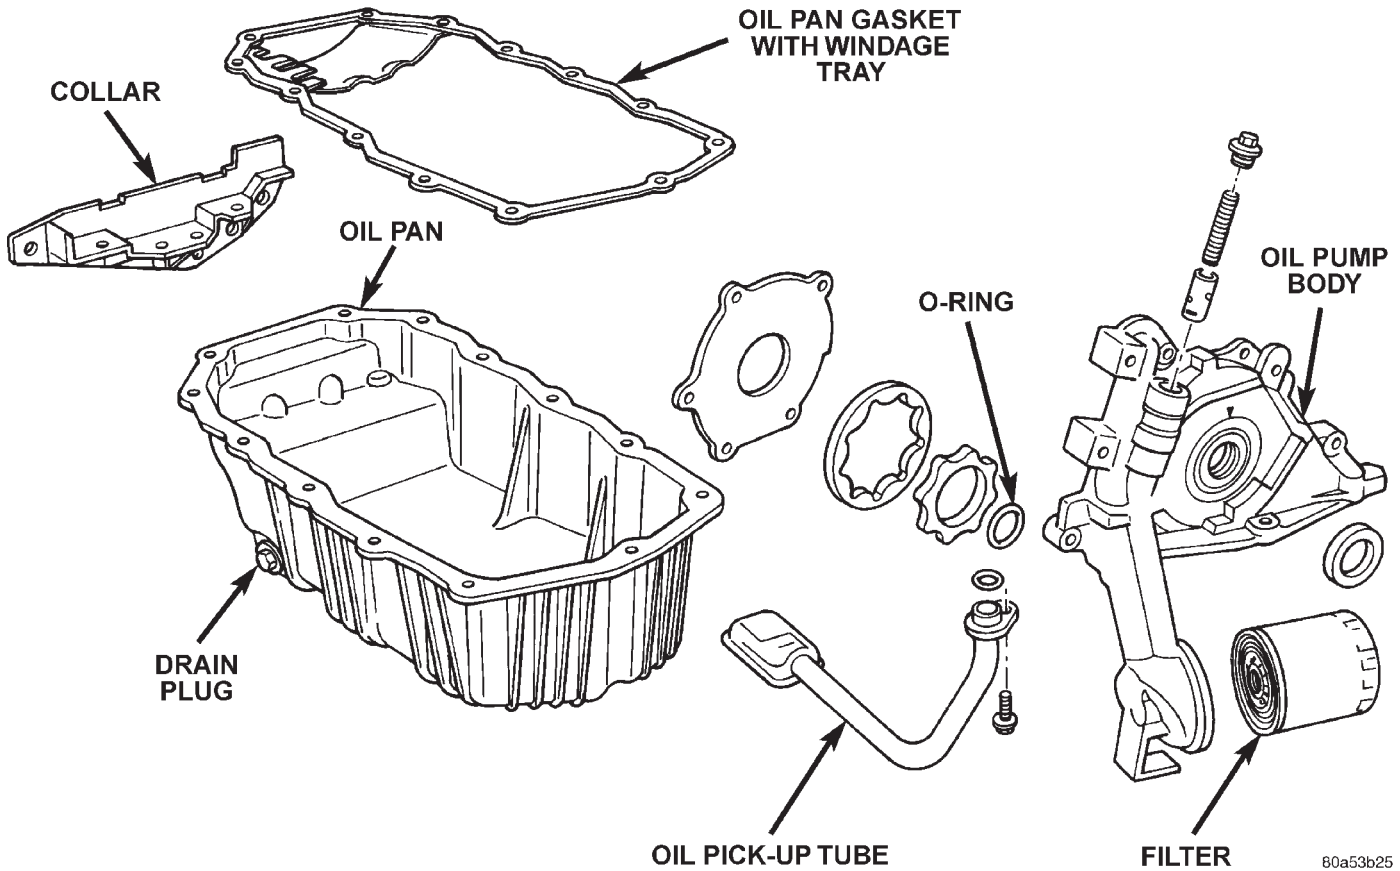

Fig. 87 Oil Pressure Relief Valve
- (1) To remove the relief valve, proceed as follows:
- (a) Remove the threaded plug and gasket from the oil pump (Fig. 87).
- (b) Remove spring and relief valve (Fig. 87)
- (2) Remove oil pump cover screws, and lift off cover.
CAUTION: Oil pump pressure relief valve must be installed as shown in (Fig. 87) or serious damage may occur.
(4) Install relief valve, spring, gasket and cap as shown in (Fig. 87). Tighten cap to 41 N·m (30 ft. lbs.)